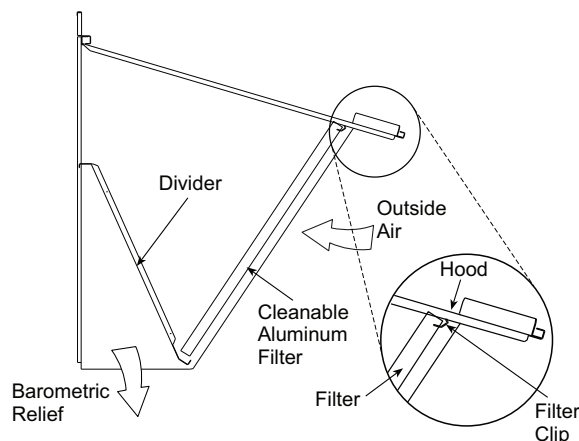

Fig. 12 — Economizer Filter Installation
5. Open the filter clips, which are located underneath the hood top. Insert the aluminum filter into the bottom filter rack (hood divider). Push the filter into position past the open filter clips. Close the filter clips to lock the filter into place. See Fig. 12.